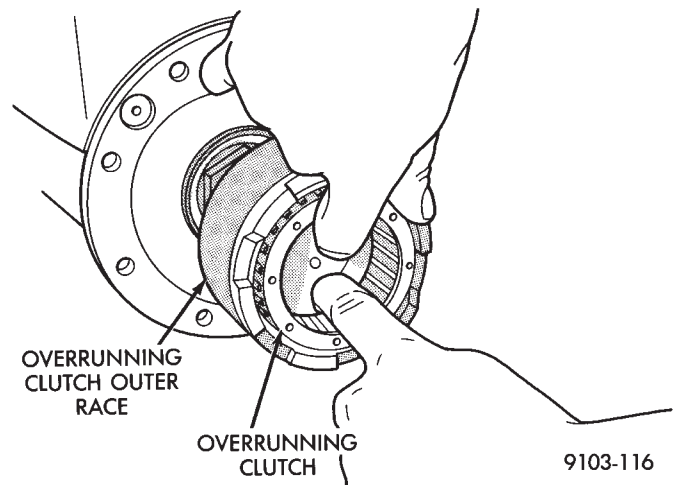

Fig. 9 Overrunning Clutch Removal
(7) Remove spacers and overrunning clutch. Overrunning clutch can be installed backwards. Keep the spacers and overrunning clutch in order when taking the unit apart (Fig. 9).